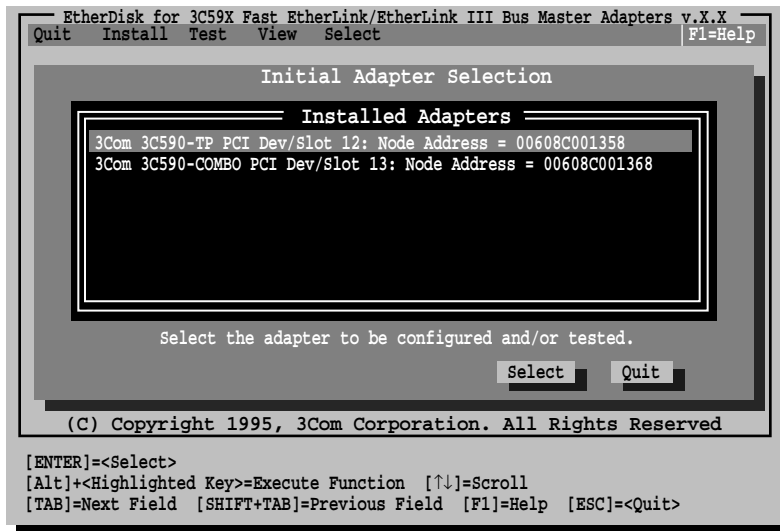

Figure A-2 Main Window with Multiple Adapters
- If you have multiple adapters installed, use the arrow keys to select an adapter, as shown in Figure A-2. Press [Enter].